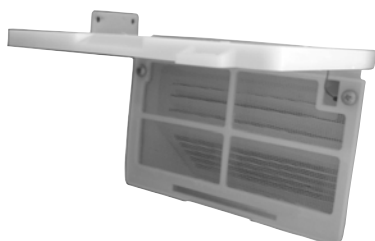

Figure 21. Vent filter removal
4. Remove the vent filter by unscrewing the two screws at the top of the filter and gently pulling the filter away from the partition panel. Refer to Figure 21. The filter can be cleaned by running under a low pressure hose or sink faucet.